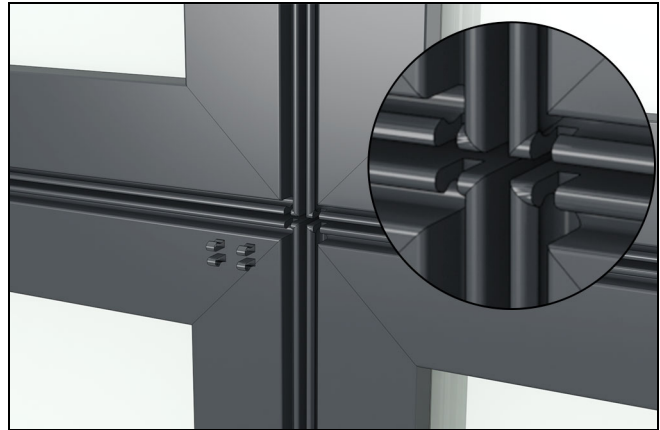

Figure 33
3. Place the individual units on a flat sturdy surface exterior side up. Use a hacksaw, rotary tool, or oscillating tool, to remove material from the corners of individual units to allow the mull cap to pass. Remove about 1/8" of material from the accessory kerf leg that runs perpendicular to the direction of the mull. See Figure 33.